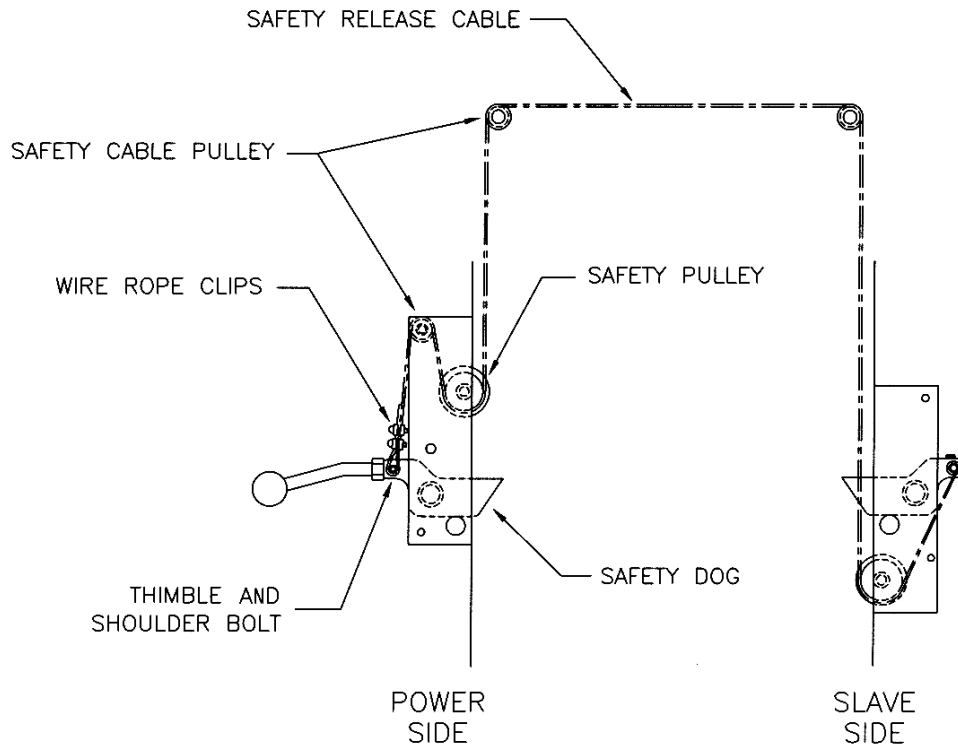

Figure 8 – Safety Release Cable Routing and Adjustment
8. Guide the cable up under the large pulley and then over the small pulley towards the safety dog as shown in Figure 8. Wrap the cable around the thimble (attached to the safety dog with a 3/8" x 1 1/2" lg. shoulder bolt) and then clamp it using two (2) wire rope clips. Do not tighten fully at this stage.